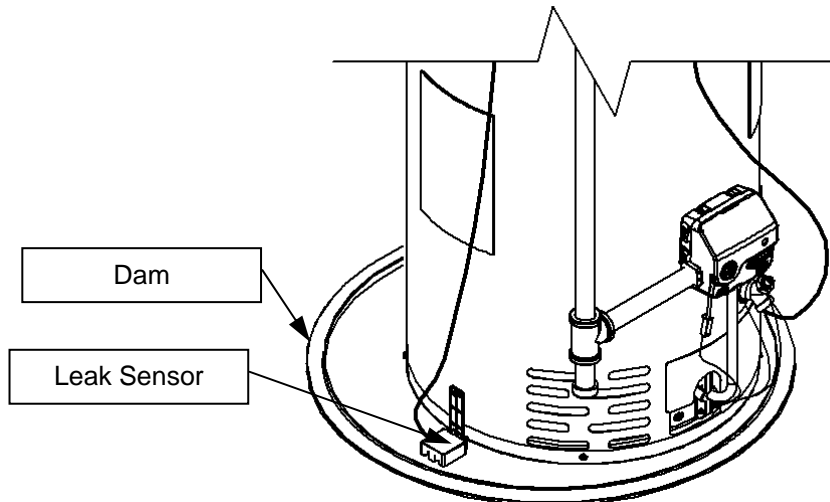

Figure 68
Step 17: Position the dam around the water heater, so it surrounds the water heater and corrals a water heater tank leak towards the Leak Sensor. This is shown in Figure 68.